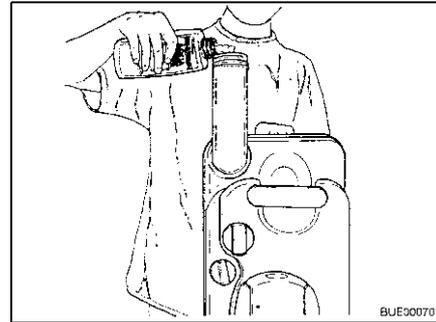

Fig. 221 Filling with sanitary liquid
- Fill the stated amount of sanitary liquid into the sewage tank (Fig. 221).